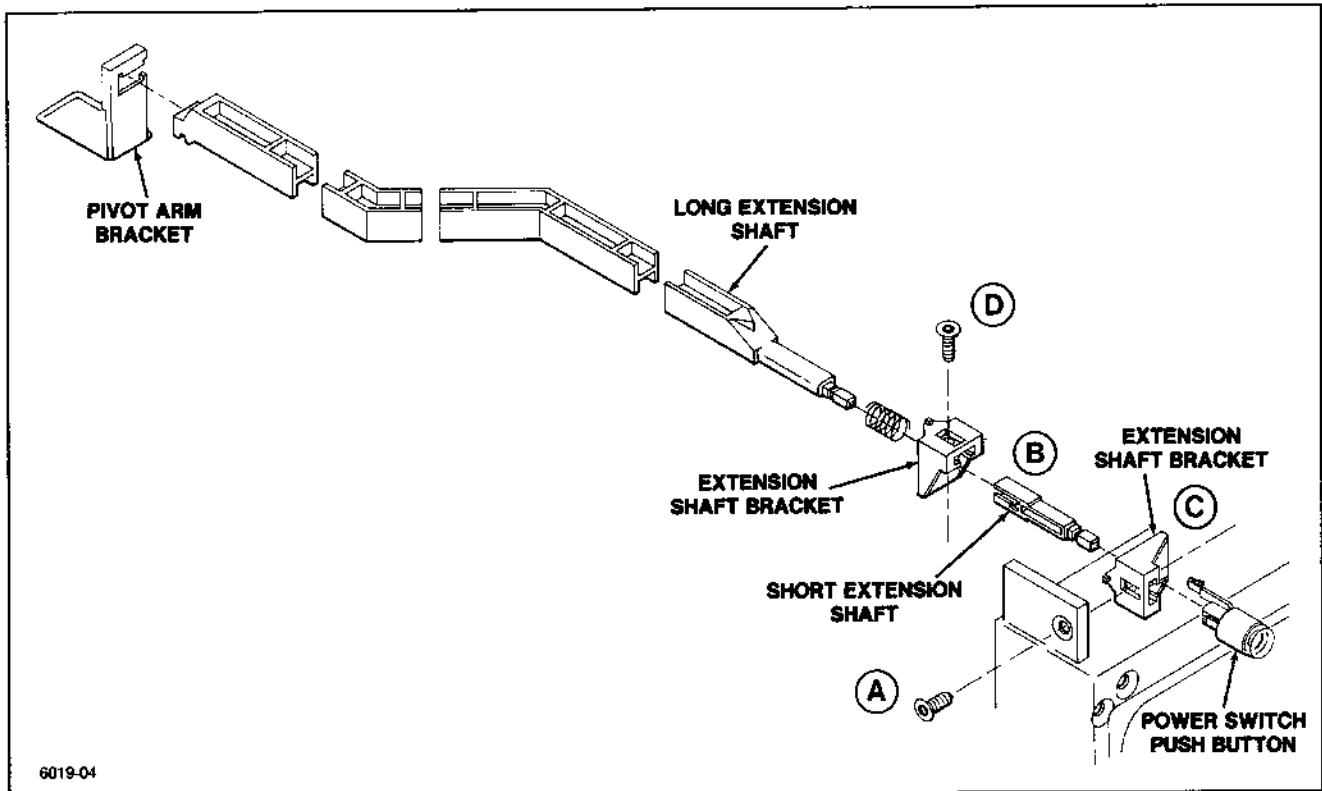

Figure 6-3. Power Switch Push Button Disassembly.
11. Turn the long extension shaft (see Figure 6-3) CCW and unplug it from the pivot bracket at the rear middle of the Main board, sliding it out of the bracket sideways.
12. Remove the power switch push button mounting screw (item A) shown in Figure 6-3. Separate the long extension shaft from the short extension shaft at point B by inserting a small screwdriver tip in the slot while pulling out on the bracket at point C. Remove the screw (item D) and slide the long extension shaft out the rear of the front frame.